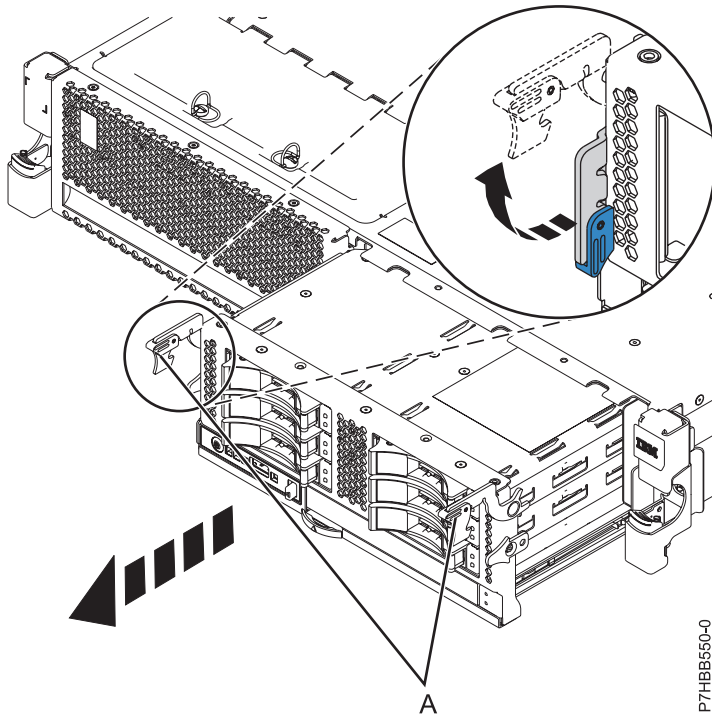
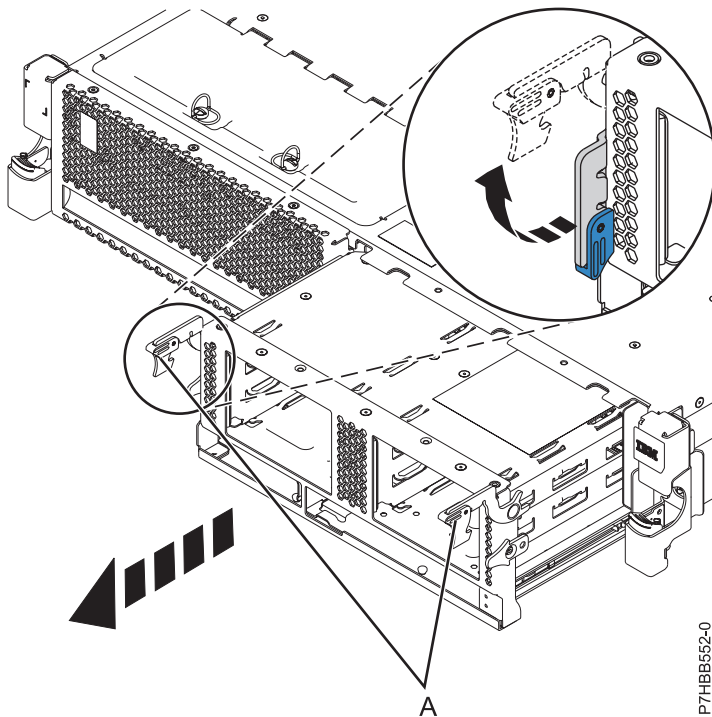

Figure 6. Removing the backplane populated with disk drives
Figure 7. Removing the backplane that is not populated with disk drives
13. Unlock the disk drive backplane by pulling the handles (A) open from the center of the backplane as shown in Figure 6 and Figure 7.